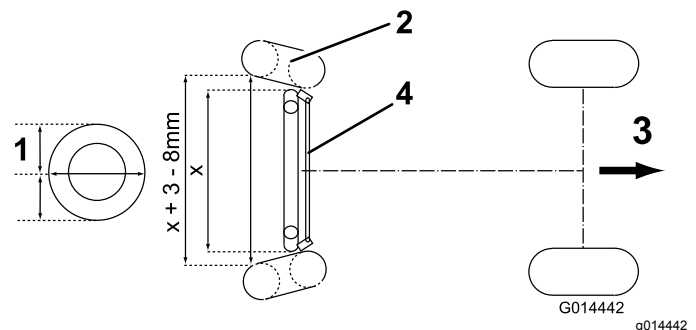

Figure 42
2. Measure and compare the distance between the front sidewalls and the rear sidewalls at the wheel center height (Figure 42).